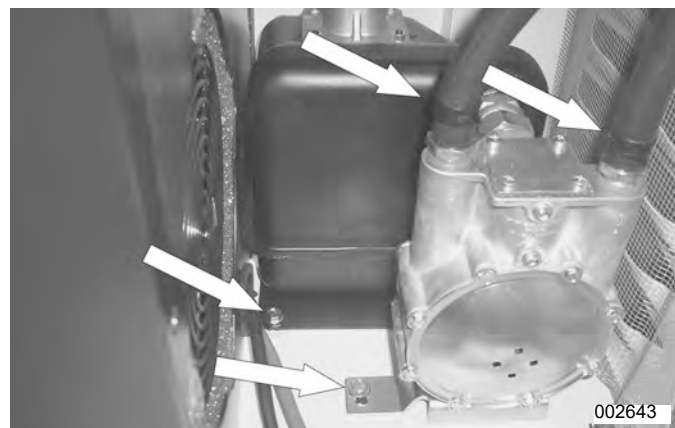

Figure 5-11.
9. **Remove Fuel Regulator:** See Figure 5-11. Remove the two fuel hoses at the top of the regulator. Use a 10 mm socket to remove one 10 mm bolt from the base of the plenum and one 10 mm bolt from the base of the fuel regulator. Flex the enclosure side out to allow for room to remove the regulator assembly.